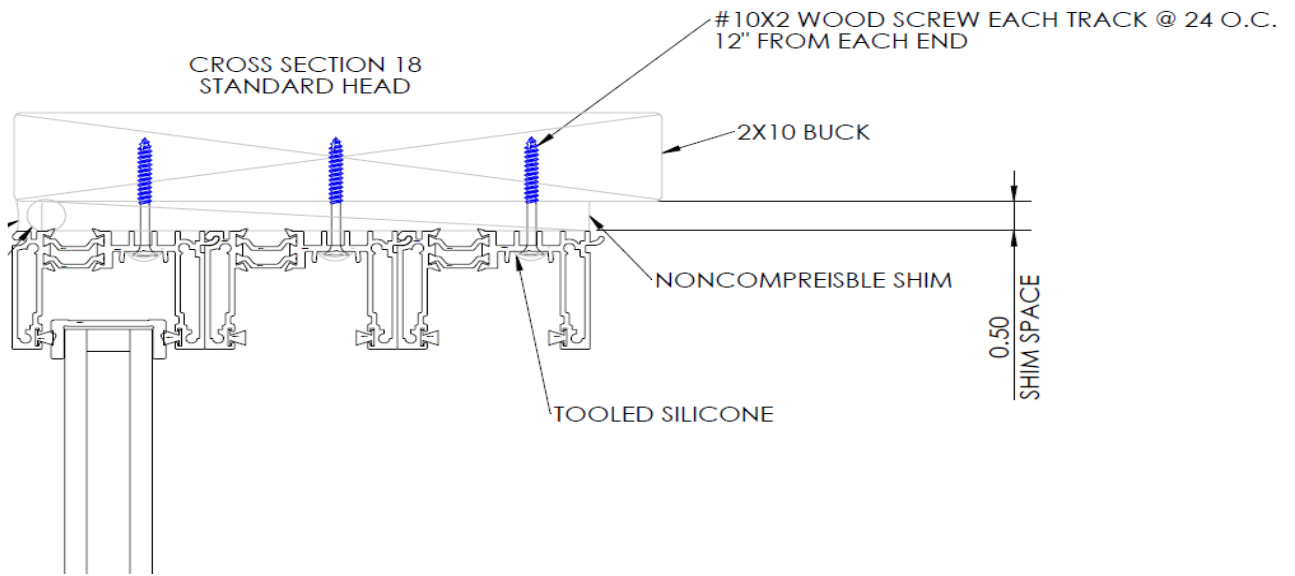
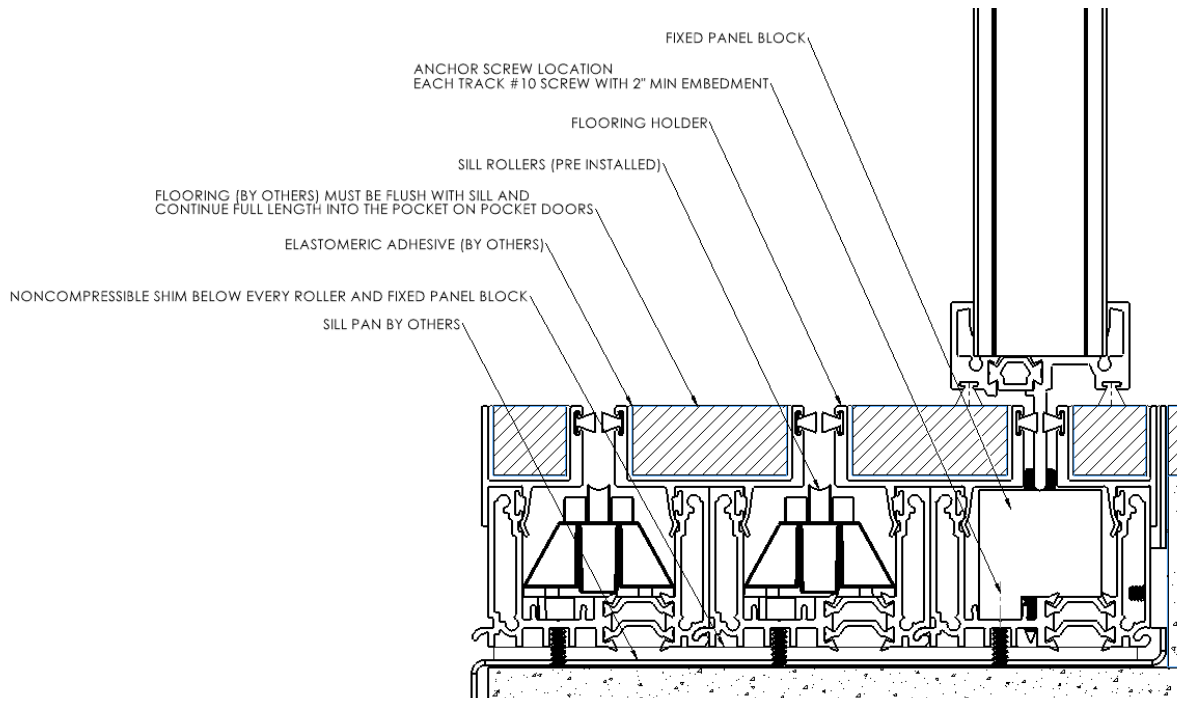

Figure 1
Figure 2
- Frame Head - holes should be drilled 12" from each end and every 24" on center per track. See **Figure 1**. Sill - holes should be drilled 6" from each end and every 24" on center per track. See **Figure 2**.